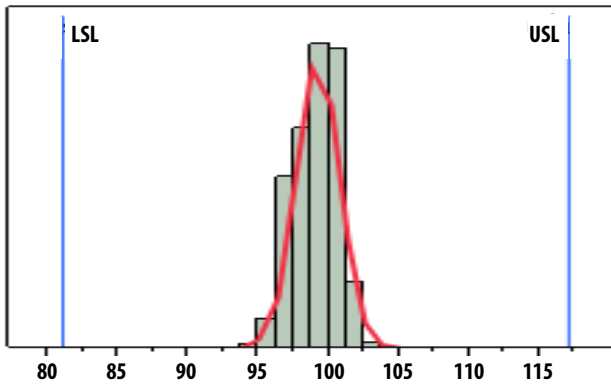

Figure 1. Idd, LSL = 81 mA, nominal = 99 mA, USL = 117 mA
RF performance at TA = 25° C, Vdd = 5 V, 1785 MHz, measured on demo board in Figure 1 with component listed in Table 1 for DC bypass.
1. Measurements at 1785 MHz obtained using demo board described in Figure 1.